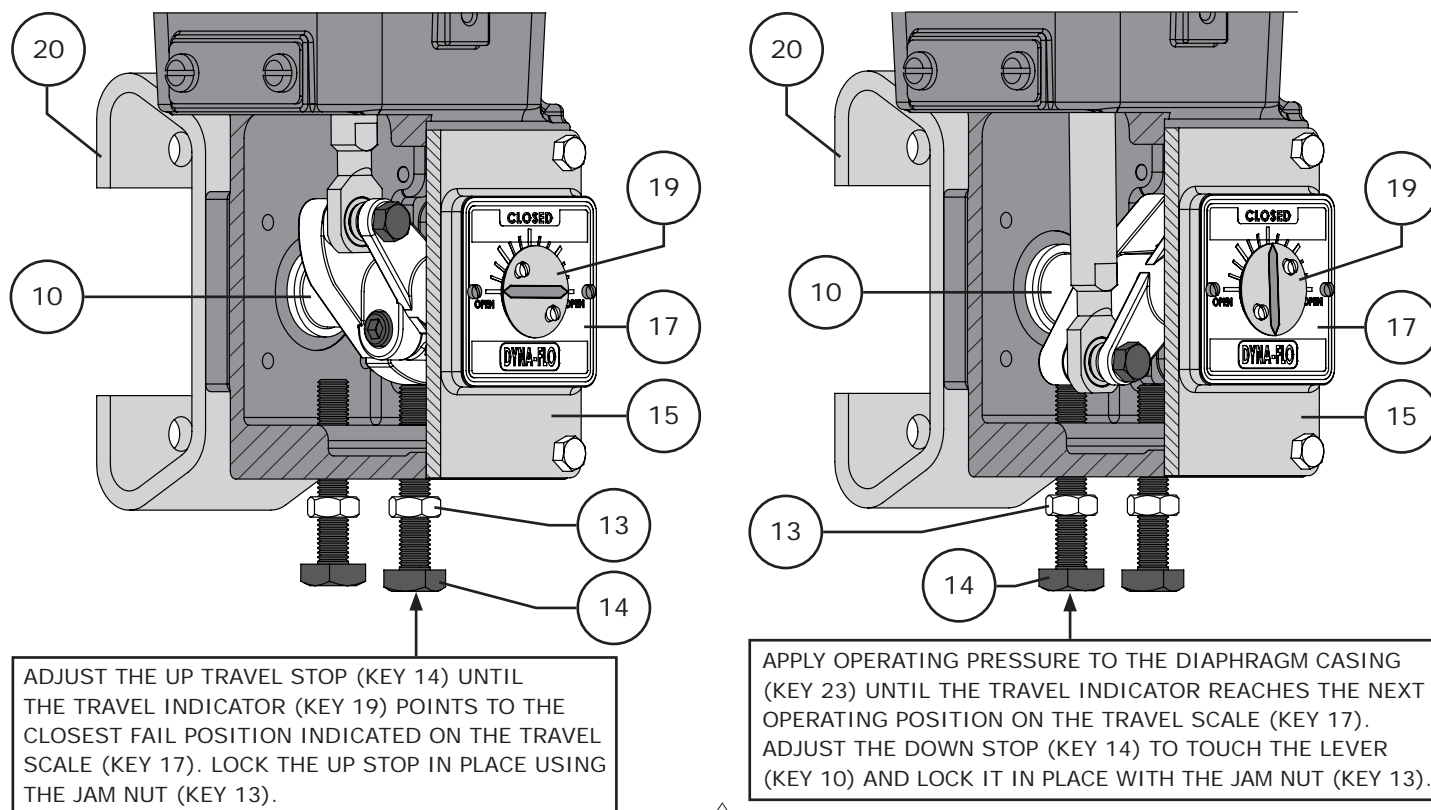

Figure 24 Travel Stop Adjustment - Fail Open Style A/D Example
- 10** Apply operating pressure to the diaphragm casing until the lever (Key 10) rotates the travel indicator (Key 19) to the desired position on the travel scale (Key 17). Refer to Figure 24. **Warning:** Do not stroke the actuator when the lever (Key 10) is not supported at each end, make sure that the housing cover (Key 15) is installed.
- 11** Adjust the down travel stop (Keys 13 and 14) to make contact with the lever (Key 10) and lock the down stop (Key 13) in place using the jam nut (Key 13). Refer to Figure 24.
- 12** Install the elbow vent (Key 32) if not already installed, Refer to Figure 24.